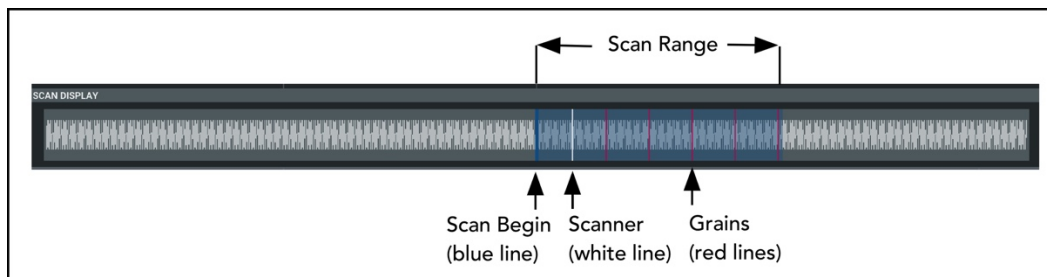

Figure 3. The Scan Display indicates:
9. Scan Begin [0,1] - Controls the starting point in the sound buffer to start granulating (figure 3). This is a relative value, where 0 indicates the beginning of the sound file, 0.5 indicates the halfway point, and 1.0 indicates the end, regardless of the length of the currently selected sound file.
10. Scan Range [-1,1] - How much of the file to scan. Shown in the Scan Display (figure 3). A value of 1 means scan the entire file. A value of 0 holds the scanner in place at the Scan Begin position. One can also set negative values to extend the range to the left of the Scan Begin position. The scan region loops around to the beginning when extended.
As figure 3 shows, Scan Begin, Scan Range, and Scan Speed control the *scanner*: a pointer that determines where grain waveforms are read from in the sound file. When a grain is emitted, it begins at the current scanner location. It may then read forward or backward through the sound file depending on Playback Rate (5).
Scan Begin (9) and Scan Range (10) together determine the region of the sound file through which the scanner moves. For example, if Scan Begin is at 0.50 and Scan Range is set to 0.25, then the scan area will extend from halfway through the sound file to 3/4 of the way through the sound file (see figure 3).